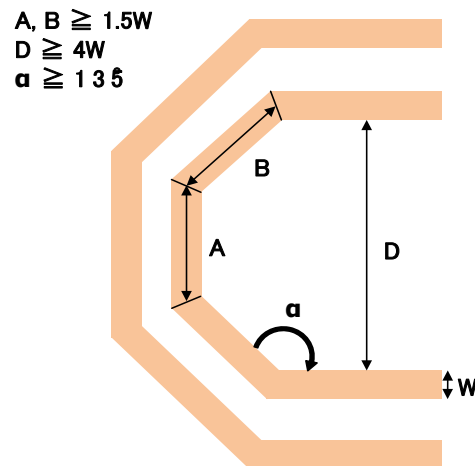

Figure 2. Avoid right angle turn
- Avoid right-angle turns (Figure 2) and minimize the number of vias within 2 or less on the high-speed traces to prevent impedance discontinuity and degrade the signal integrity.